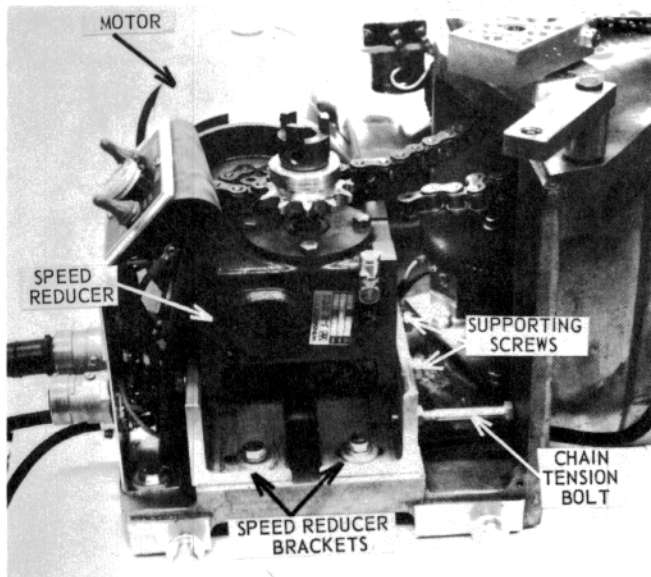

Figure 72 — Motor, Speed Reducer, and Supporting Screws
- 6.1.8 Remove the motor and speed reducer by removing the four supporting screws (see Figure 72). **BE CAREFUL** — the motor and speed reducer can drop onto the speed reducer brackets.